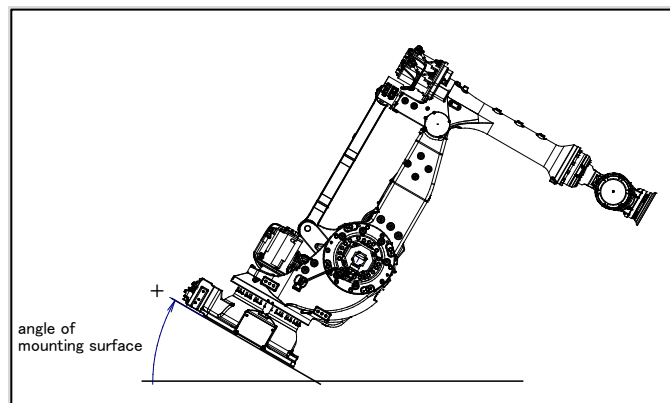

Fig. 1.2.2 (a) Mounting angle
- 6 Input the mount angle referring to Fig. 1.2.2 (a).